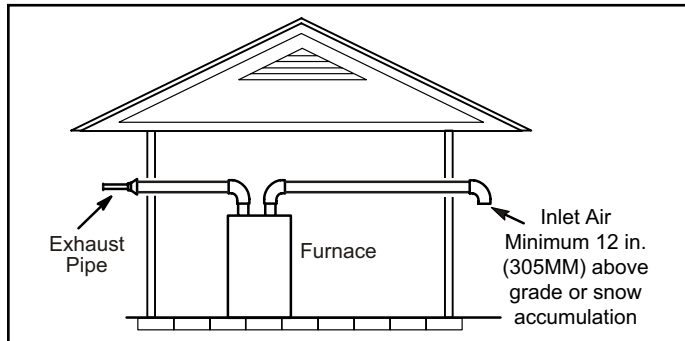
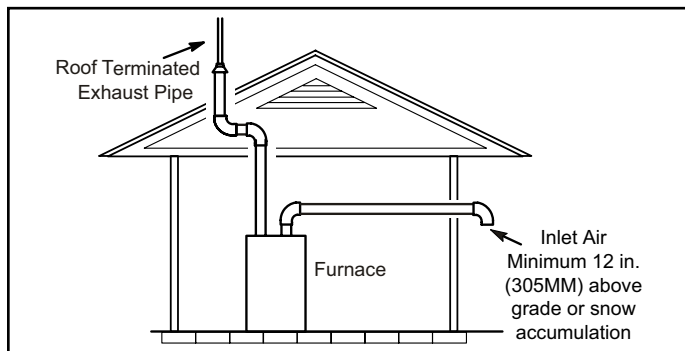

Figure 35. Exiting Exhaust and Intake Vent (no common pressure zone)
Figure 36. Exiting Exhaust and Intake Vent (no common pressure zone)
Intake and exhaust pipes may be routed either horizontally through an outside wall or vertically through the roof. In attic or closet installations, vertical termination through the roof is preferred. Figure 35 through Figure 43 show typical terminations.
1. Intake and exhaust terminations are not required to be in the same pressure zone. You may exit the intake on one side of the structure and the exhaust on another side (Figure 35). You may exit the exhaust out the roof and the intake out the side of the structure (Figure 36).